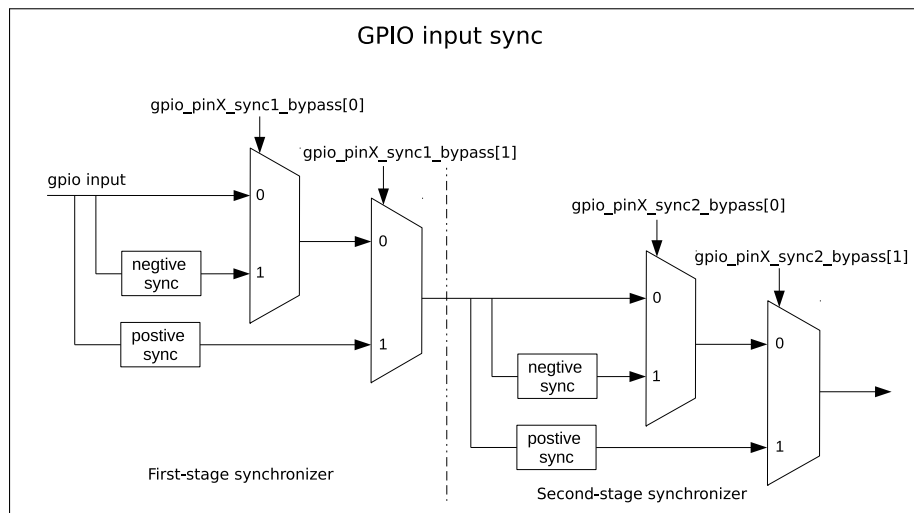

Figure 5.2-1. GPIO Input Synchronized on Clock Rising Edge or on Falling Edge
Figure 5.2-1 shows the functionality of GPIO SYNC. In the figure, negative sync and positive sync mean GPIO input is synchronized on APB clock falling edge and on APB clock rising edge, respectively.
- Set `GPIO_PINx_SYNC1_BYPASS` to enable input signal synchronized on rising edge or on falling edge in the first clock, see Figure 5.2-1.
- Set `GPIO_PINx_SYNC2_BYPASS` to enable input signal synchronized on rising edge or on falling edge in the second clock, see Figure 5.2-1.